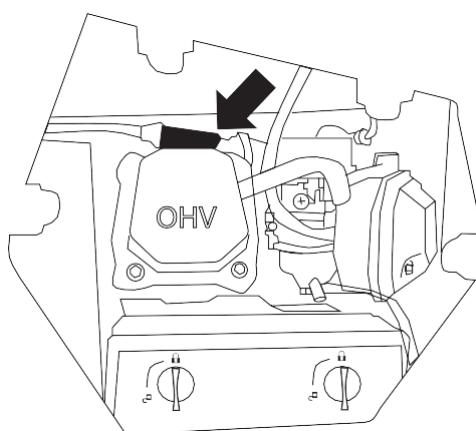

Figure 18: Pull off Spark Plug Cover
22. Remove the spark plug cover by firmly pulling the metal spark plug boot handle directly away from the engine (see Figure 18).